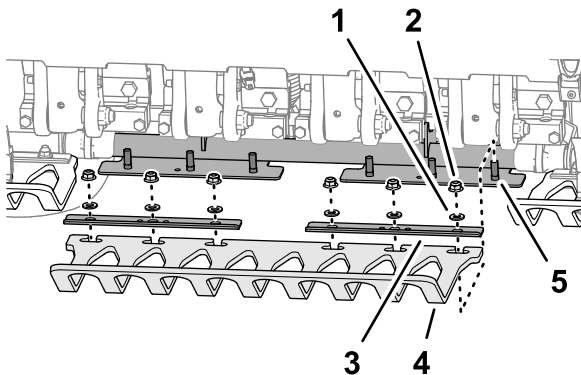

Figure 39
**Note:** The factory ships turf guard clamps, washers, and flange locknuts secured to the turf guard brackets (Figure 39).